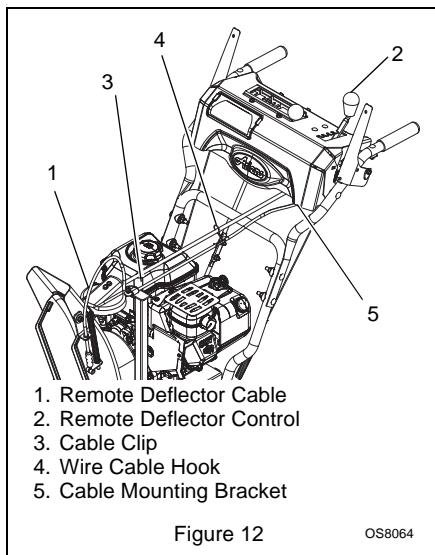

Figure 12
(Figure 12 and 13)
1. Slide cable through clip on top of discharge chute pedestal (Figure 12).